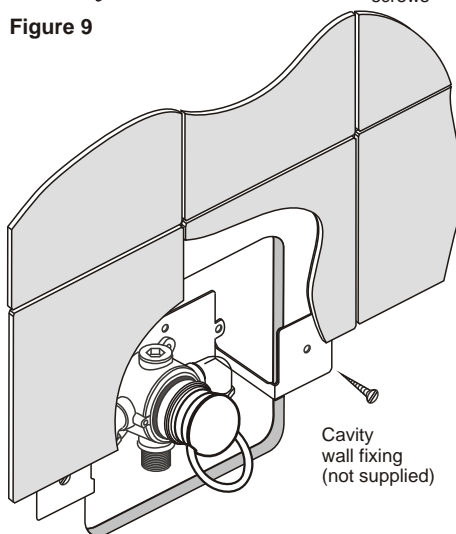

Figure 10
9. Fit the plaster guard (56) and check wall levels agree with those marked on the guard.
10. Complete the plastering and tiling. When the bracket is used, tile directly over the wall mounting flanges as the bracket material is thin enough to be accommodated in the adhesive layer. (Figure 10)
11. Ensure the small drainage hole in shroud (53) is located at the bottom.
13. Fit cover plate and trim (55).
14. Fit operating handle (52) and secure using washer and nut. (A 10 mm A/F box spanner (62) is supplied with the fitting for this purpose).
15. Snap on dome cover (51)